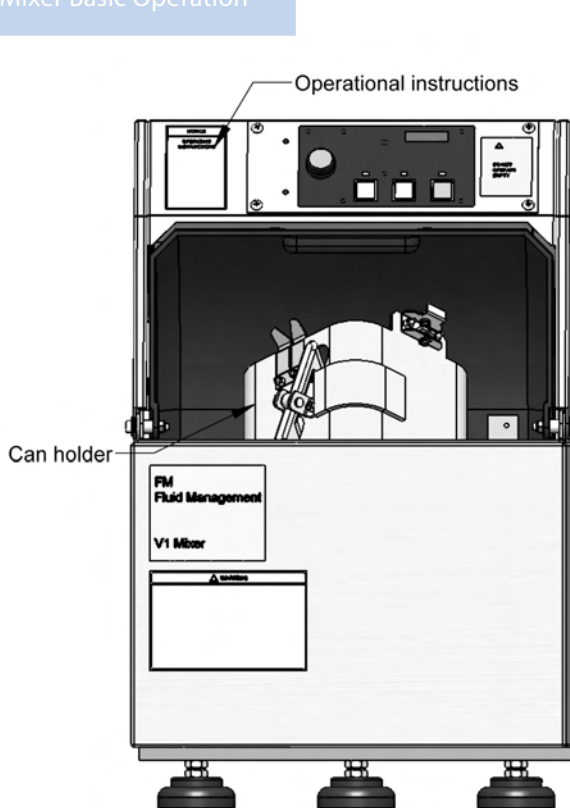

Fig. 3
- 1 - Before operating the mixer, read the safety labels and instructions *Figures 3, 4*.